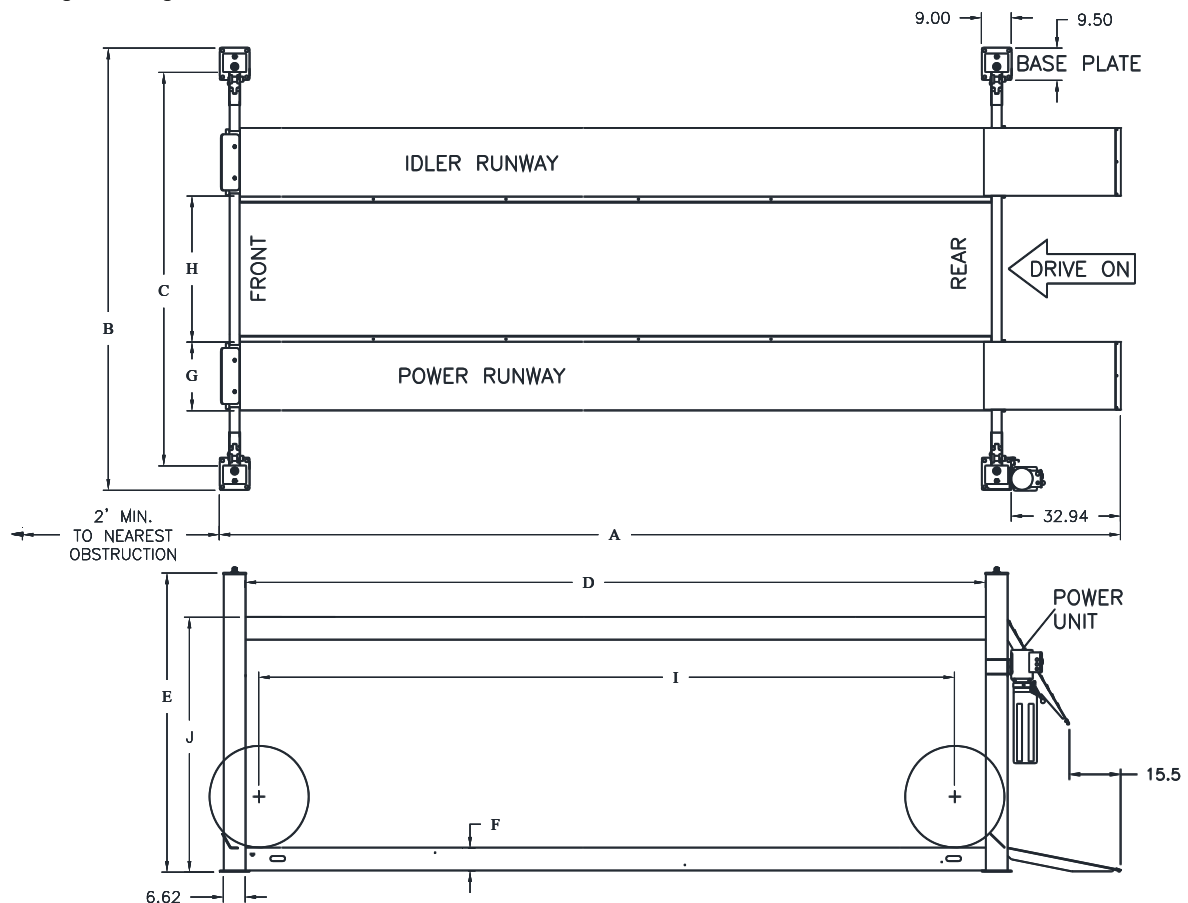
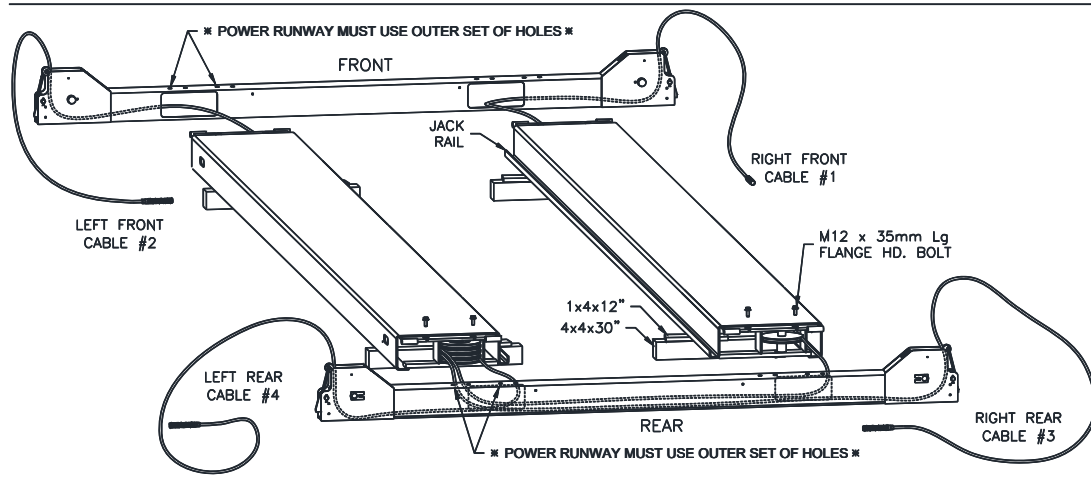

Fig 1 – General Specifications and Service Bay Layout
Fig 4 – Runway Layout
- Lay out the service bay according to the architect's plans or owners instructions, **Fig 1**. Be certain that the proper conditions exist, see page 3.
- 3) Position runways on blocking (*see Fig 4*) per layout lines established in step 1. Use four 30" long 4x4's spanning the width of the runway and
four 12" long 1x4's to shim up the jack-rail side of the runway. Cable #1, #3, & #4 should be extending out from the rear of the power runway and cable #2 from the front of the power runway, **Fig 4**.
- 4) Position the front and rear cross beams, **Fig 4**. (Both cross beams are identical.)
- 5) Reach in through either of the access holes in the cross beam tube and pull out the roll of 4mm dia. plastic air line connected to the air cylinder at the end of the cross beam. Repeat for opposite access hole and position the cross beam near the end of the runways as in **Fig 4**.
- 13) Attach both cross beams to the runways (**Fig. 4**) with M12 x 35mm lg. flange head bolts (two at each end of each runway) being careful not to pinch the air line. Leave the airlines hanging out the bottom of the crossbeam access holes at this time, they will be fed in through the runway after the lift is raised. **The outermost power runway slots should be in line with the outermost holes in the top of the cross beam, see Fig. 4.** The idler runway can be installed using the outer or inner sets of cross beam holes, see "Width Between Runways" dimension in **Fig. 1**. Do not torque bolts yet.